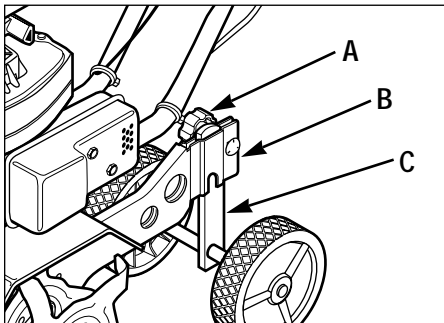

Figure 6: Tilling depth adjustment.
- a. Loosen tilling depth adjustment knob (A, Figure 6).
- b. Move wheel bracket (B, Figure 6) up in relation to the height adjustment bar (C). Moving the bracket upward results in shallower tilling, which is recommended for initial use.